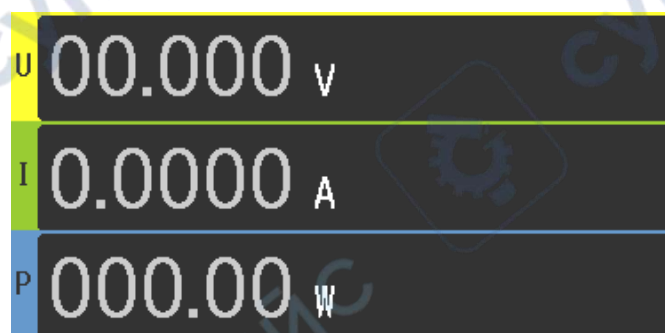

Figure 4-2
**U,I,P PPOff: as shown in Figure 4-2, display voltage, current and power values